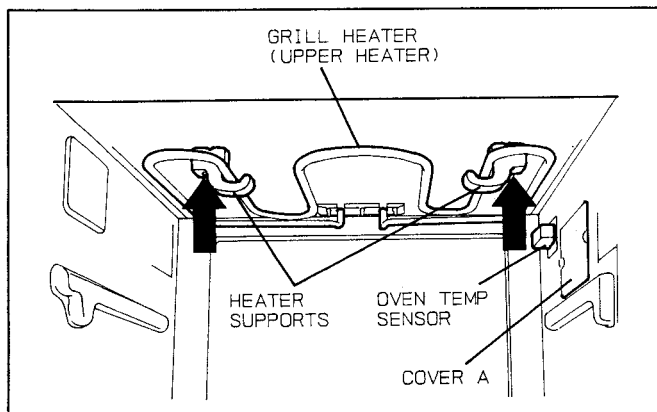

Fig. 25
- (A) Remove 2 grill heater lead wires by removing 2 screws.
(B) Remove 2 heater supports by removing 2 screws. (Fig. 25)